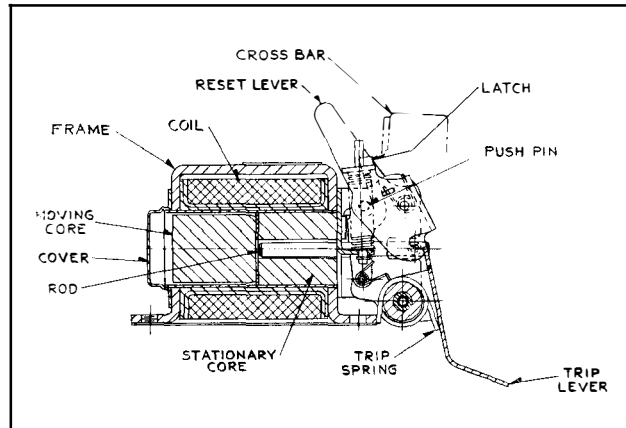

FIG. 5.1. Undervoltage Trip Unit
**Undervoltage Trip Attachment.** The device is illustrated in Figure 5.1, and it is located at the right side of the closing mechanism mounting plate. This is a magnetically held device which when de-energized will trip the breaker using the force stored in a spring during the breaker's previous opening stroke. For instantaneous release, the holding magnet coil may be directly connected to a d-c control source, or it may be supplied with a low voltage d-c obtained from an a-c control voltage through a